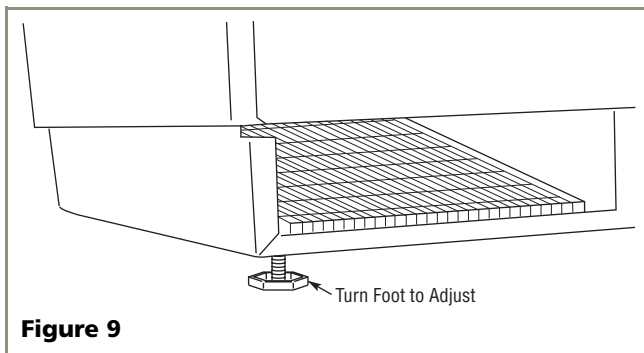

Figure 9
2. If the unit is not level, adjust the feet on the corners of the unit as necessary (see **Figure 9**).